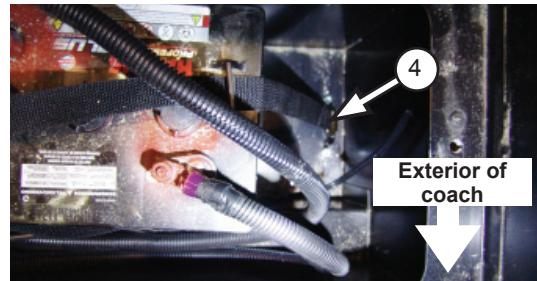

Figure 8
- b. Slide both batteries towards to the rear of the compartment until they are up against Bracket "1" and install Bracket "4" on the bottom surface of the compartment at the location shown on the diagram in Figure 6. Reference also the photo in Figure 8.